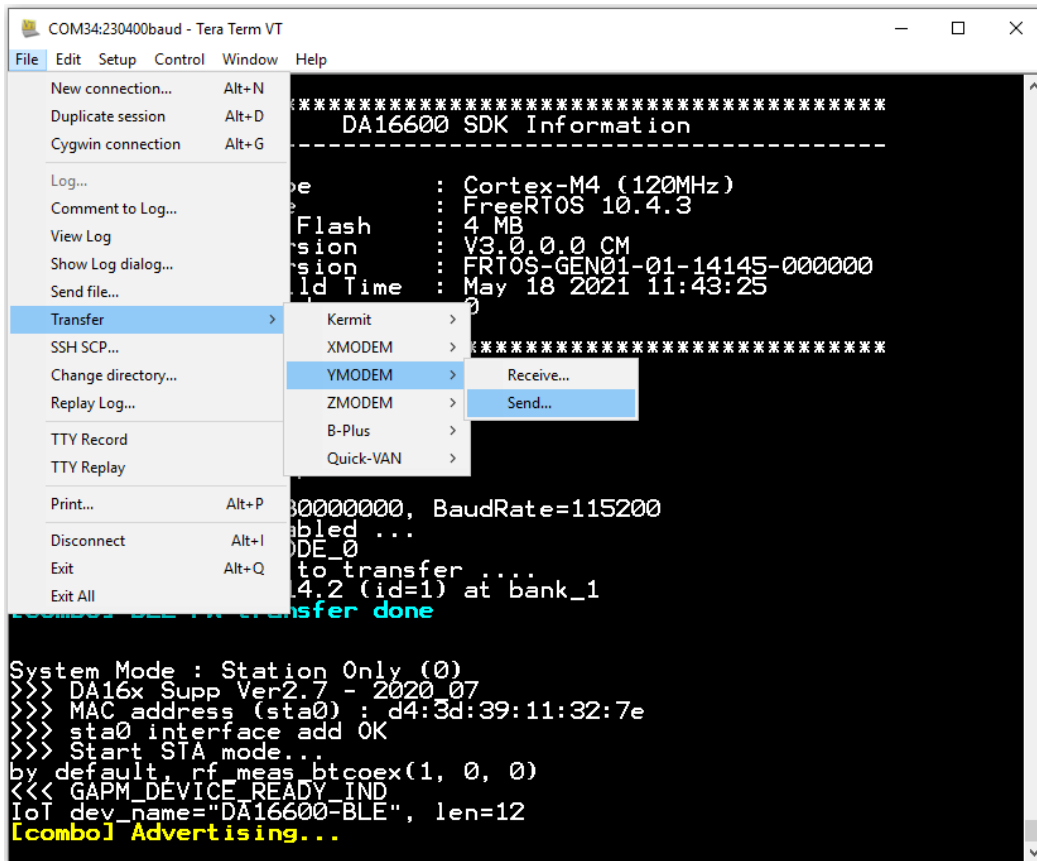

Figure 10: Tera Term
3. Go to **File > Transfer > YMODEM > Send** to quickly find file DA16600_FBOOT-*.img, see Figure 10. These shortcut keys can be used: keep the **Alt + F and T, Y, S**.